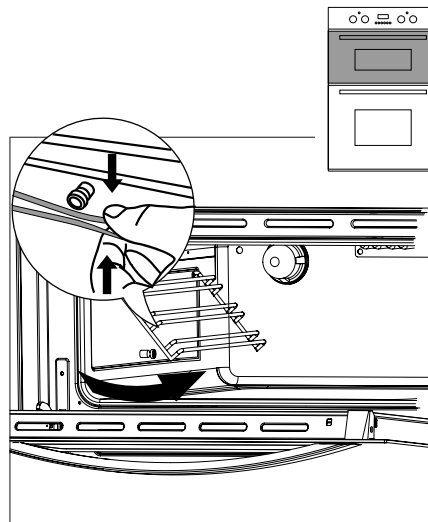
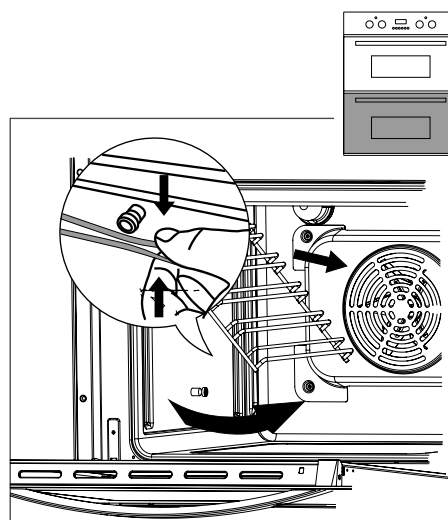

Fig. 6
Fig. 8
- Gently compress the bottom two rows of the side racks beneath the screw. For the Upper Oven refer to Figure 6) or the Lower Oven (see Figure 8).
- While compressing the bottom two rows, pull the side rack away from the side of the oven chamber (see Figure 8).